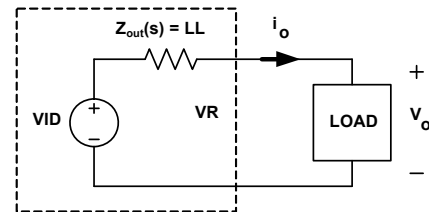

FIGURE 24. VOLTAGE REGULATOR EQUIVALENT CIRCUIT
Figure 18 shows the desired load transient response waveforms. Figure 24 shows the equivalent circuit of a voltage regulator (VR) with the droop function. A VR is equivalent to a voltage source (= VID) and output impedance $Z_{\text{out}}(s)$. If $Z_{\text{out}}(s)$ is equal to the load line slope LL, i.e., constant output impedance, in the entire frequency range, V_o will have square response when I_o has a square change.